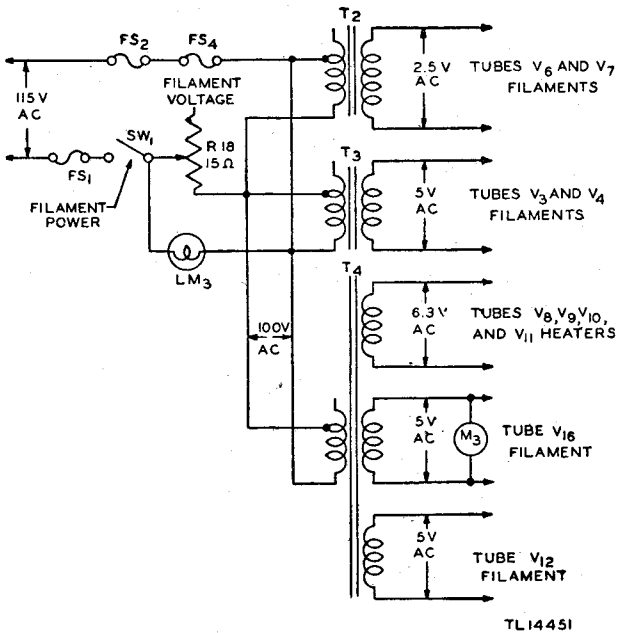

Figure 77. FILAMENT VOLTAGE control—functional diagram.
a. FILAMENT VOLTAGE CONTROL RESISTOR R18 (fig. 77). FILAMENT VOLTAGE control resistor R18 is located on the lower front panel of the transmitter. It controls the filament voltage to tubes V3, V4, V6, V7, V12, and V16 and the heater voltage